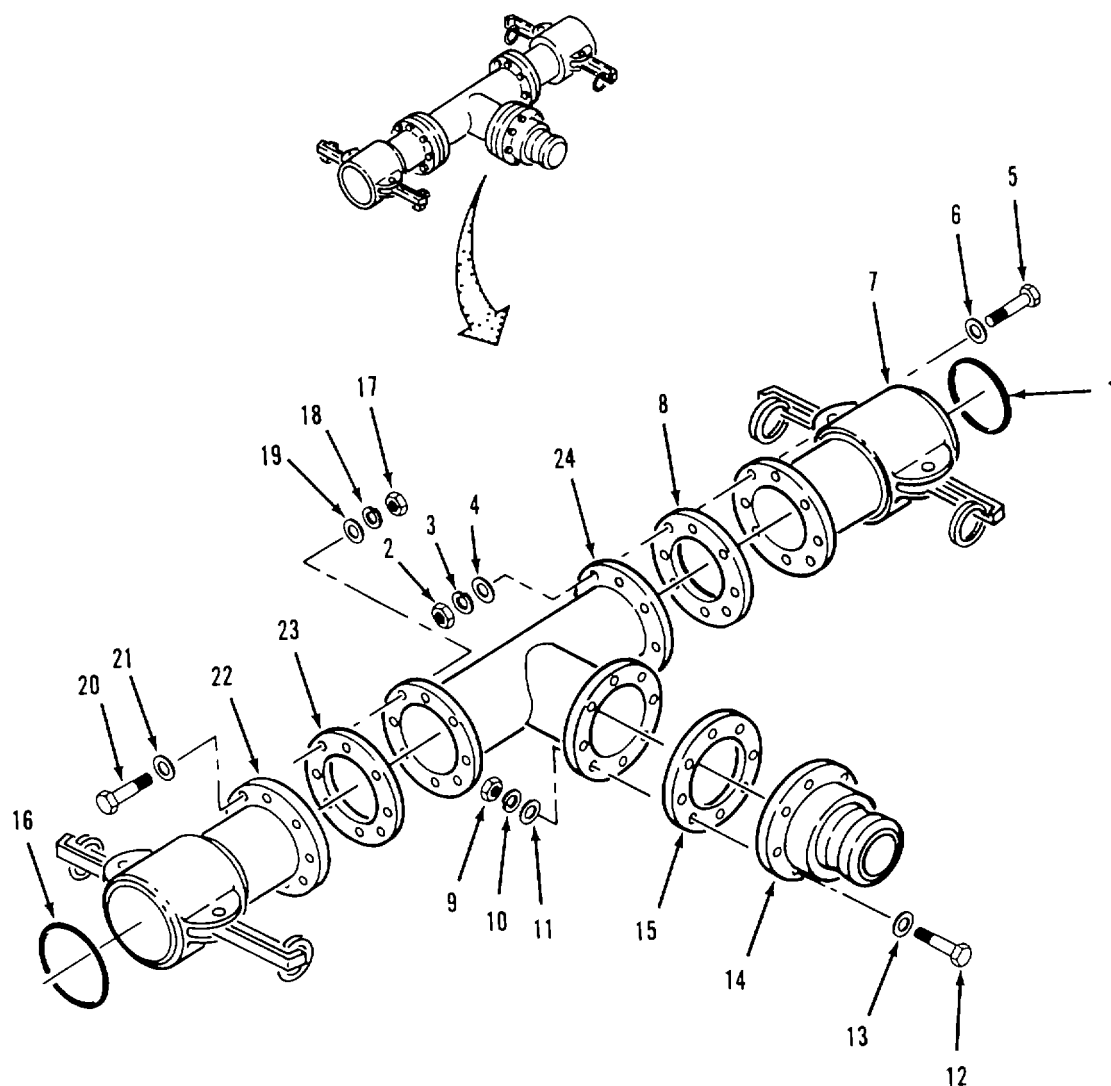

Figure 4-20. Tee Assembly (9112-Y1) Assembly.
- (1) Inspect male coupling (14) for cracks.
- (2) Inspect female couplings (7 and 22) for cracks and damaged lock arms.
- (3) Inspect tee (24) for cracks and corrosion.
e. Assembly. Refer to figure 4-20.
- (1) Position gasket (23) and female coupling (22) on tee (24).
- (2) Install eight flat washers (21), screws (20), flat washers (19) lockwashers (18) and nuts (17).